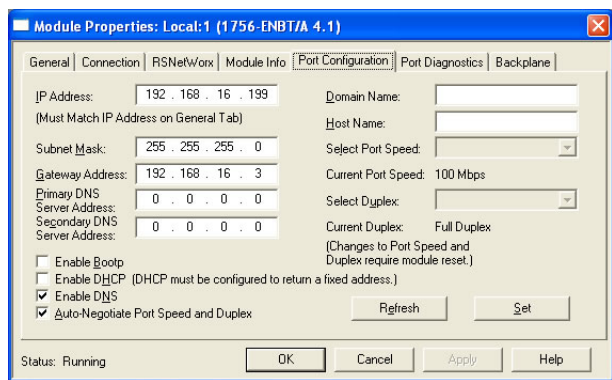

Figure 77: Confirming the Module's Properties
- 11) Confirm that the IP Address, Subnet Mask and Gateway Address fields are configured correctly. The IP Address must match the IP Address entered when the new module was first created. Refer to Figure 77.